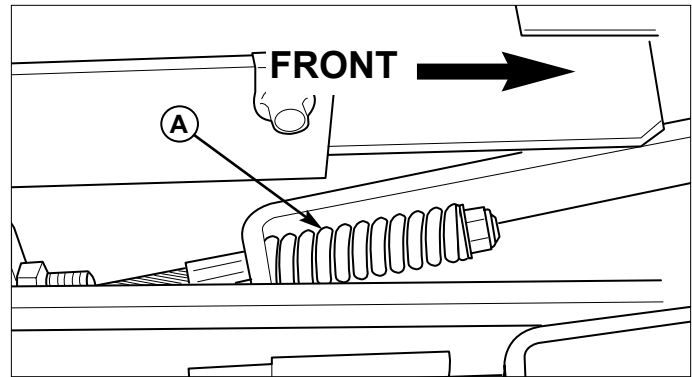

Figure 30. Parking Brake Adjustment
3. Locate the upper brake spring (A, Figure 30).